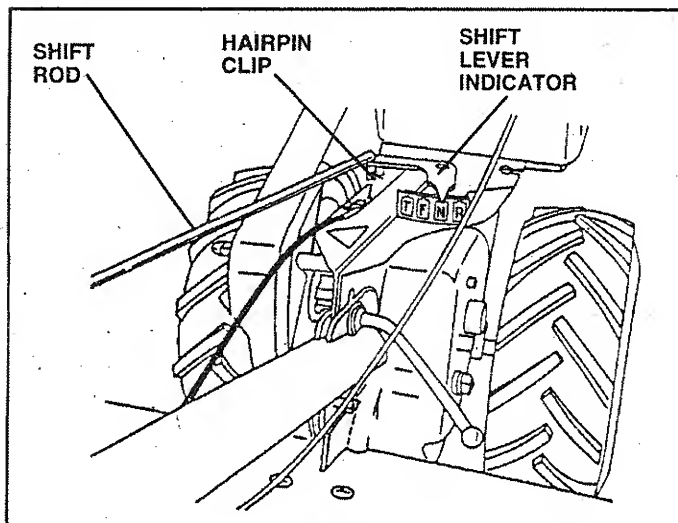

FIG. 6
CONNECT SHIFT ROD (See Fig. 6)
- Make sure shift lever indicator is in "N" position (See Fig. 6)